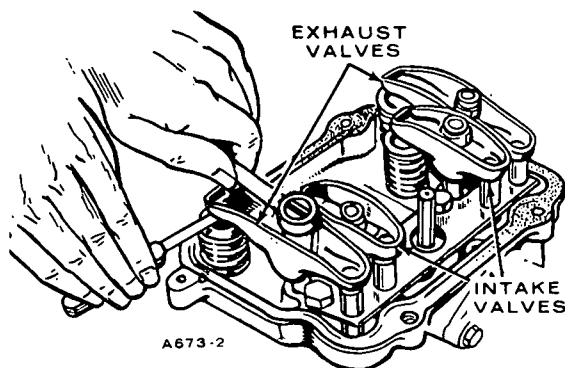

FIGURE 46. ADJUSTING VALVES
- d. Using a feeler gauge, check the clearance between the rocker arm and the valve. (See Figure 46). Increase or reduce the clearance until the proper gap is established adjusting with the lock nut which secures the rocker arm to the cylinder head.